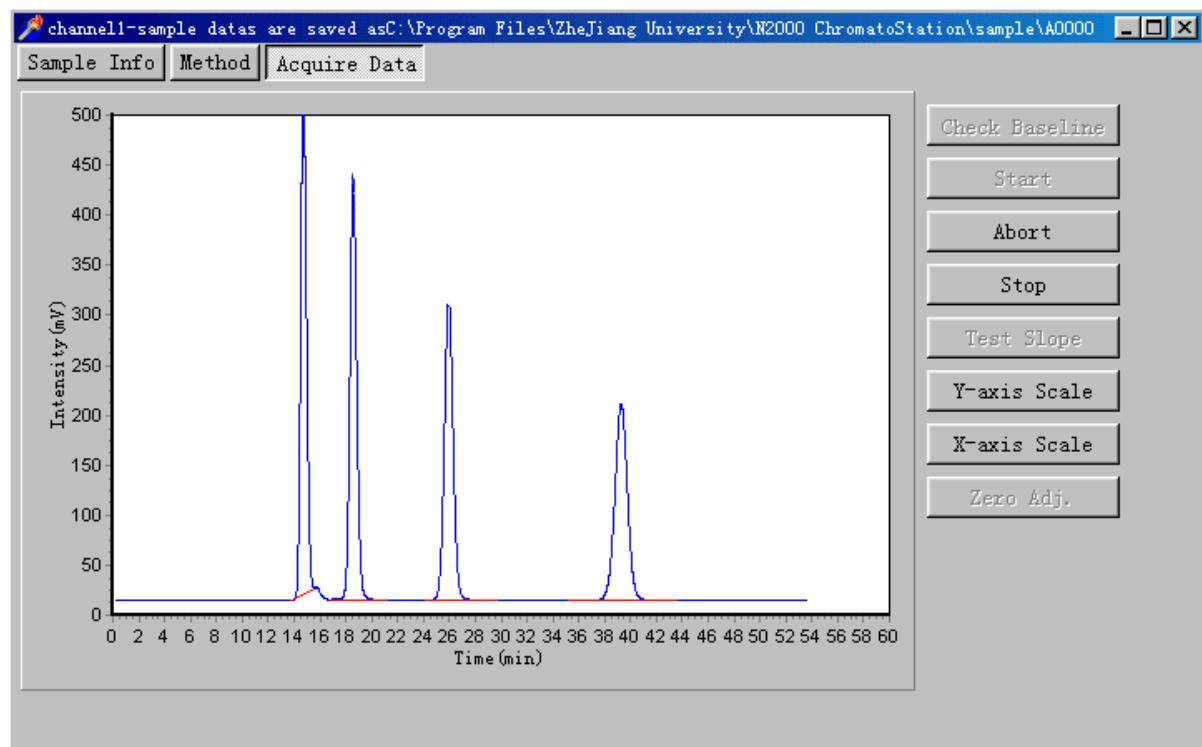

Figure C-300. Dialog Box for Editing the Instrument Condition
2. The Dialog Box for acquiring data appears as shown in Figure C-300.